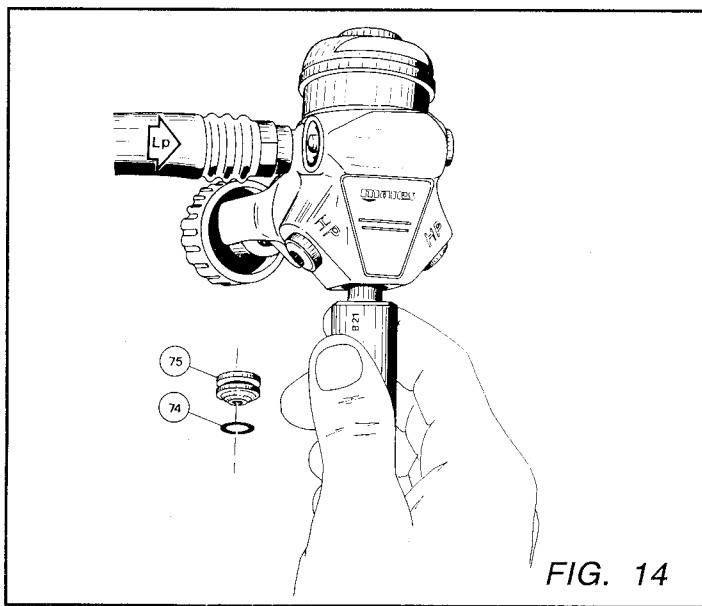

FIG. 14
6. Remove o-ring (6) from poppet retainer.
7. Remove backup ring (5) from poppet retainer.
8. Place tool (B21) over the first stage poppet seat (75). While maintaining light pressure against the tool, pressurize the second stage hose with low pressure air (below 100 psi) (Fig. 14).